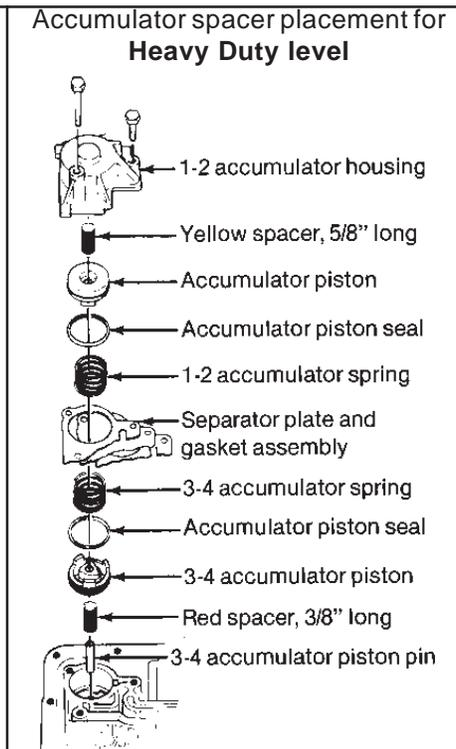

Figure 10
STEP 5. Beginning mid 1987 model year, TH-700's have an auxiliary valve body located where earlier models have a cover plate (See Fig. 2.) Remove the cover plate or auxiliary valve body. Be careful not to drop the check ball located in the auxiliary valve body (See Fig's. 8, 8a, 8b, & 8c) Remove the 1-2 accumulator housing while holding the separator plate up to the case. Then slowly lower the separator plate and retrieve the check balls located above the plate. Make note of the **color** and **location** of the 1-2 and 2-3 accumulator springs for correct reassembly (See Fig. 10.) Remove all old gasket material from these parts. **Note: Early 1982 TH-700's had a support plate located under the 1-2 accumulator housing.** If your transmission is fitted with this plate, carefully save the gasket as you will have to re-use the gasket upon reassembly (Gasket GM P/N 8642129 is not included in kit.)
STEP 13. Heavy Duty Only; Place the 3-4 accumulator pin in the case. Over the pin place the **RED** (3/8") spacer sleeve, accumulator piston and spring (spring is installed at step 17.) Use a dab of grease or petroleum jelly to hold components in place (See Fig. 10) Proceed to step 15.
STEP 15. Heavy Duty Only; Remove the spring and piston from the 1-2 accumulator housing (See Fig. 10.) Install over the pin the **YELLOW** spacer, piston (notice orientation) and spring. Proceed to step 17.